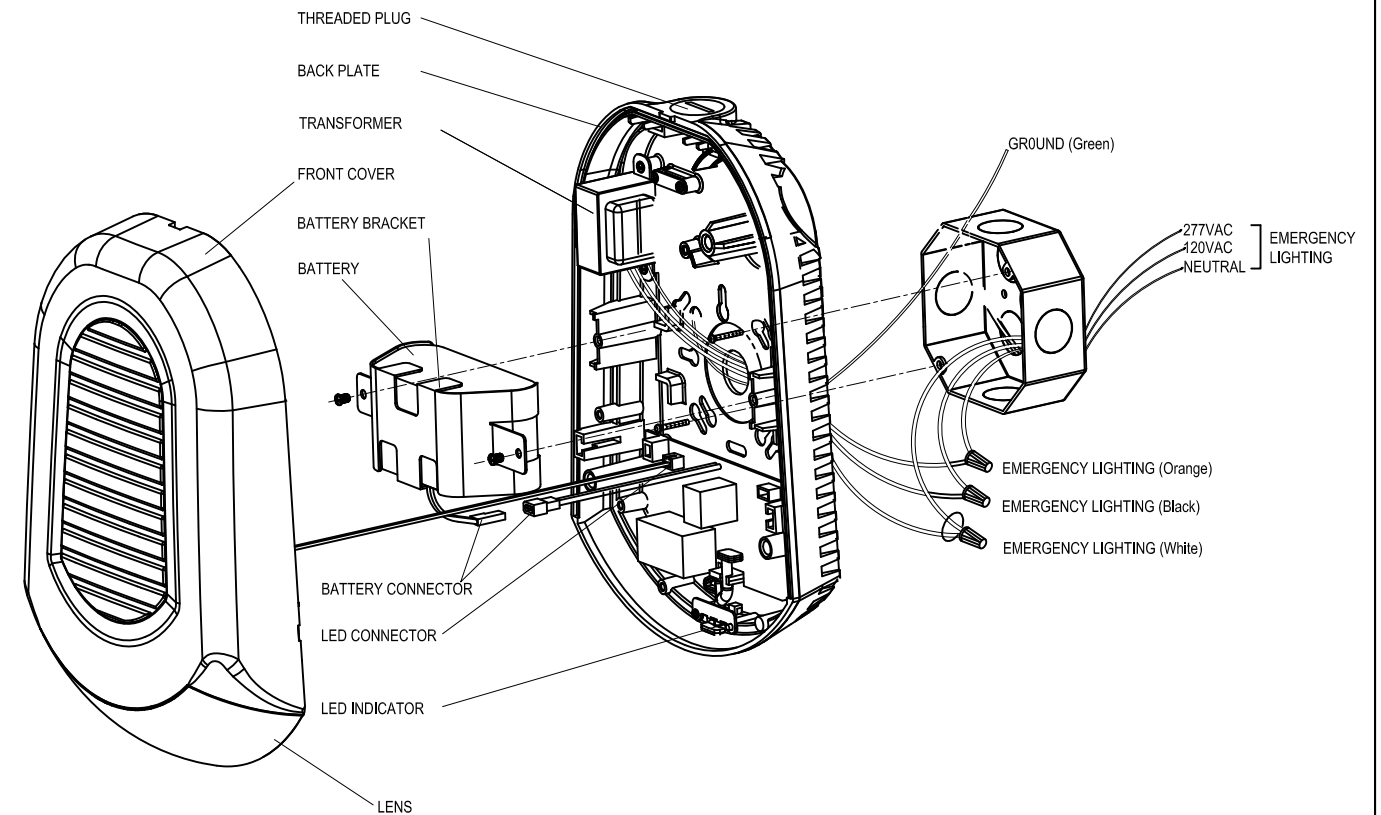

Fig.3
4. Mount back plate to junction box with screw provided #8-32X1" (see Fig.3).
5. Install battery assembly on back plate, connect battery connector, confirm LED connector from top cover is connected (see Fig.3).